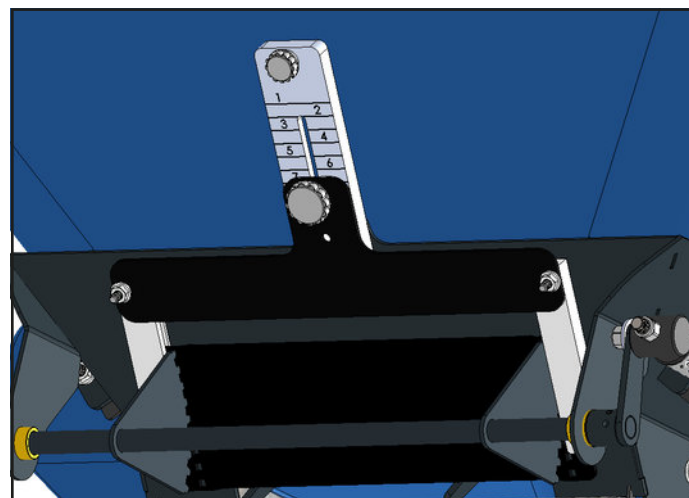

Figure 10.5.2
**NOTE:** Ensure that the feed trap remains closed when not in use to prevent spillage and uneven application. (See figure 10.5.2)